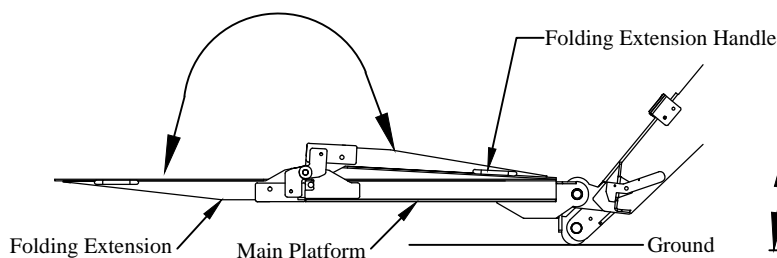

Figure 5: Steps 9 and 13.
- Step 9. Stand off to the side and unfold the platform folding extension (Figure 5).
- Step 13. To close the platform, stand to the side of the platform, not under or behind the platform. With the liftgate lowered, close and lock the platform cart stops, if so equipped, then fold the folding extension by lifting on the handle (Figure 5).